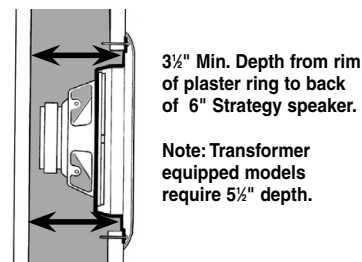

FIG. 5
- Figure 5 Illustrates wall-mount installation using plaster ring Model FAPR-6. A minimum wall depth of 3 $\frac{1}{2}$ " (from rim of the plaster ring to the back of the speaker) is required for mounting.